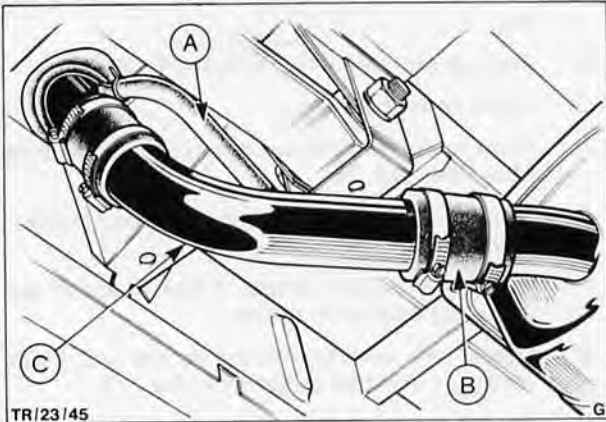

Fig. 74. Tank filler pipe assembly
- From under vehicle disconnect filler pipe from tank connector, Fig. 74.
- Disconnect tank ventilation tube from filler pipe. Fig. 74.
11. Reconnect ventilation tube, Fig. 74.